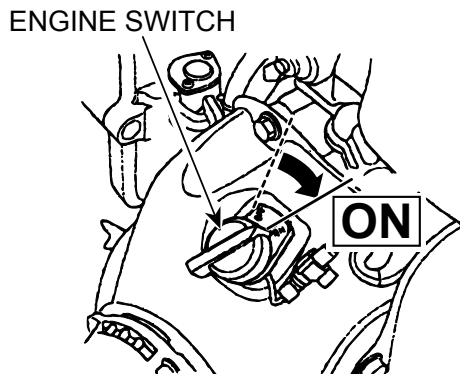

Figure 9. Engine Switch
2. Set the engine **ON/OFF** switch to the **ON** (start) position (Figure 9).